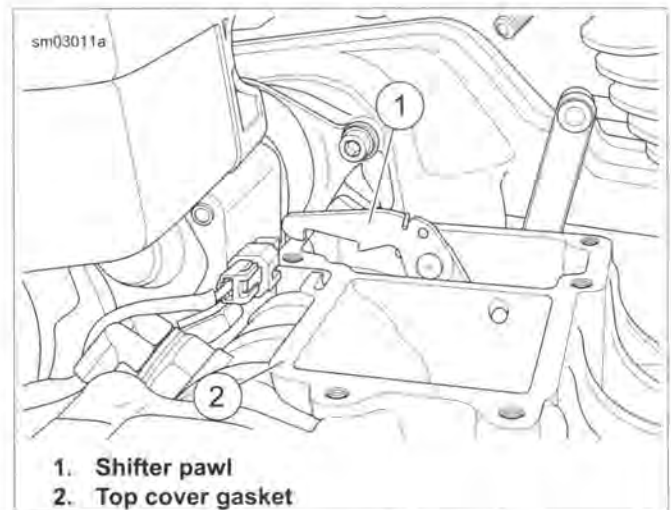

Figure 6-9. Set Shifter Pawl on Gasket
9. See Figure 6-9. Place shifter cam pawl on top cover gasket.